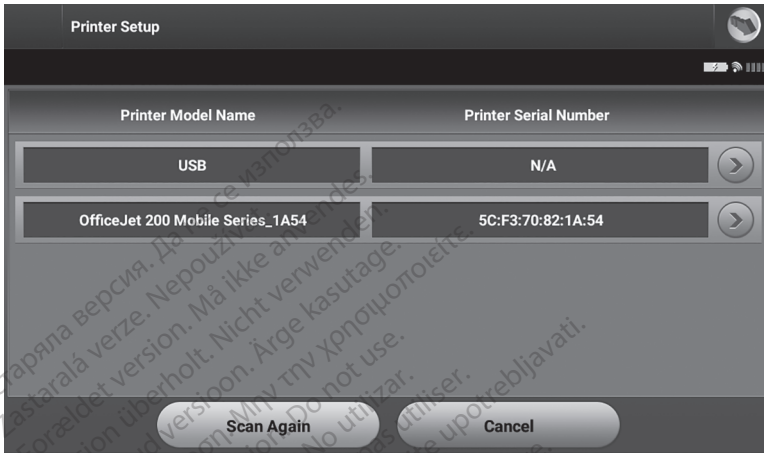

Figure 13. Printer Setup screen
2. Select Printer Setup on the Programmer Settings screen. The Printer Setup screen (Figure 13 Printer Setup screen on page 20) displays with a USB printer whether one